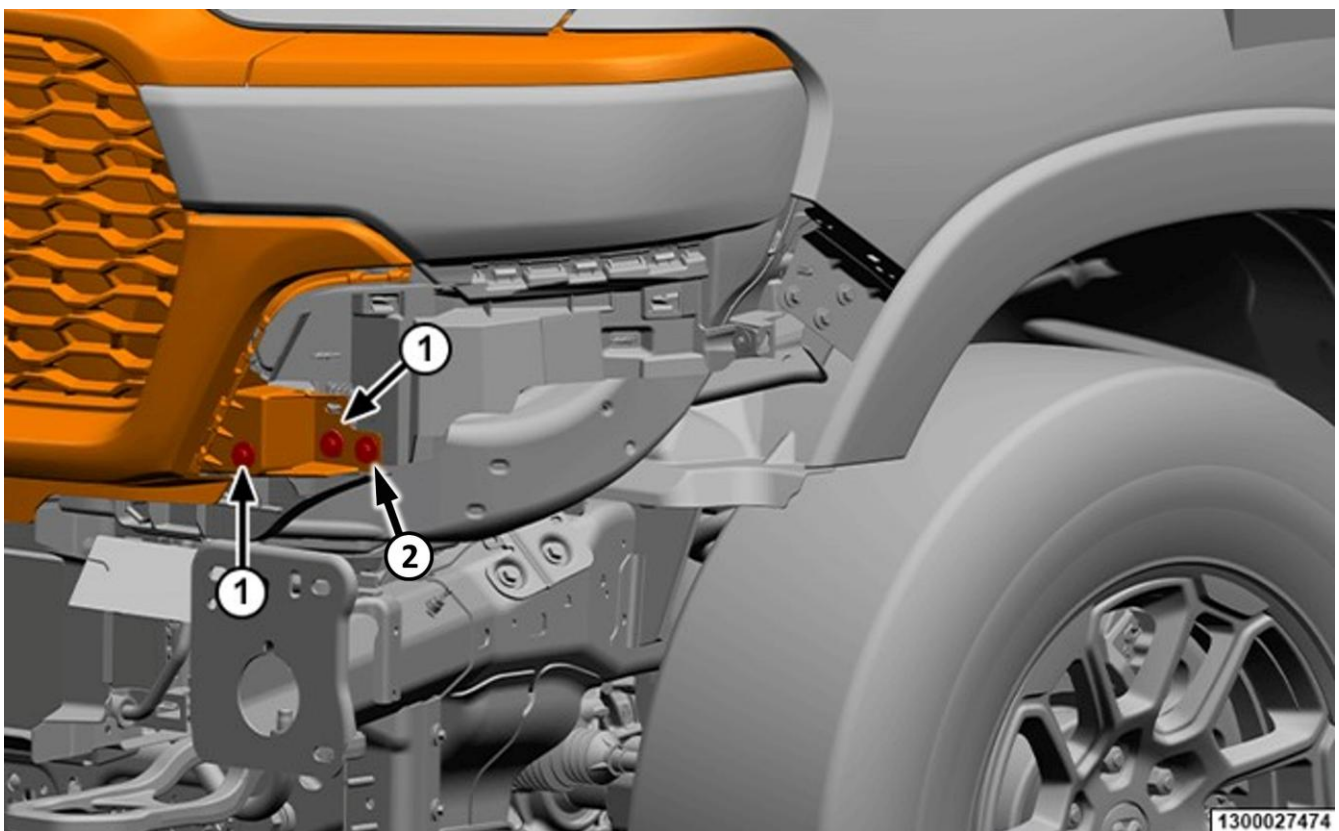

Figure B21 – Grille Carrier
36. Position the grille to the vehicle (Figure B21).
37. Install **NEW** bolts in positions (1) and reuse the bolt in position (2) on each side of the grill assembly then tighten the bolts to 5 N·m (44 In. Lbs.) (Figure B21).